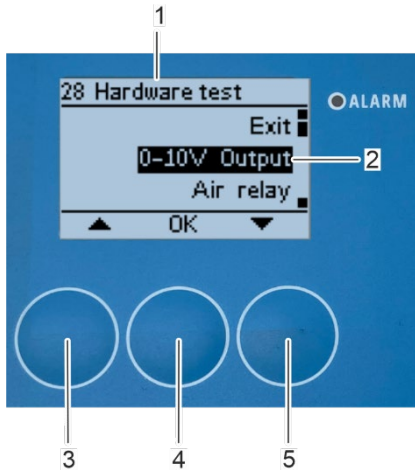

Fig. 142: Open submenu “0-10V output”
⇒ The “28 Hardware test” submenu (Fig. 142/1) appears on the display again and the rotor turns when the electrical installation is correct.
5. After checking the 0-10 V output, select the “0-10V Output” submenu (Fig. 142/2) and confirm with [OK] (Fig. 142/4).